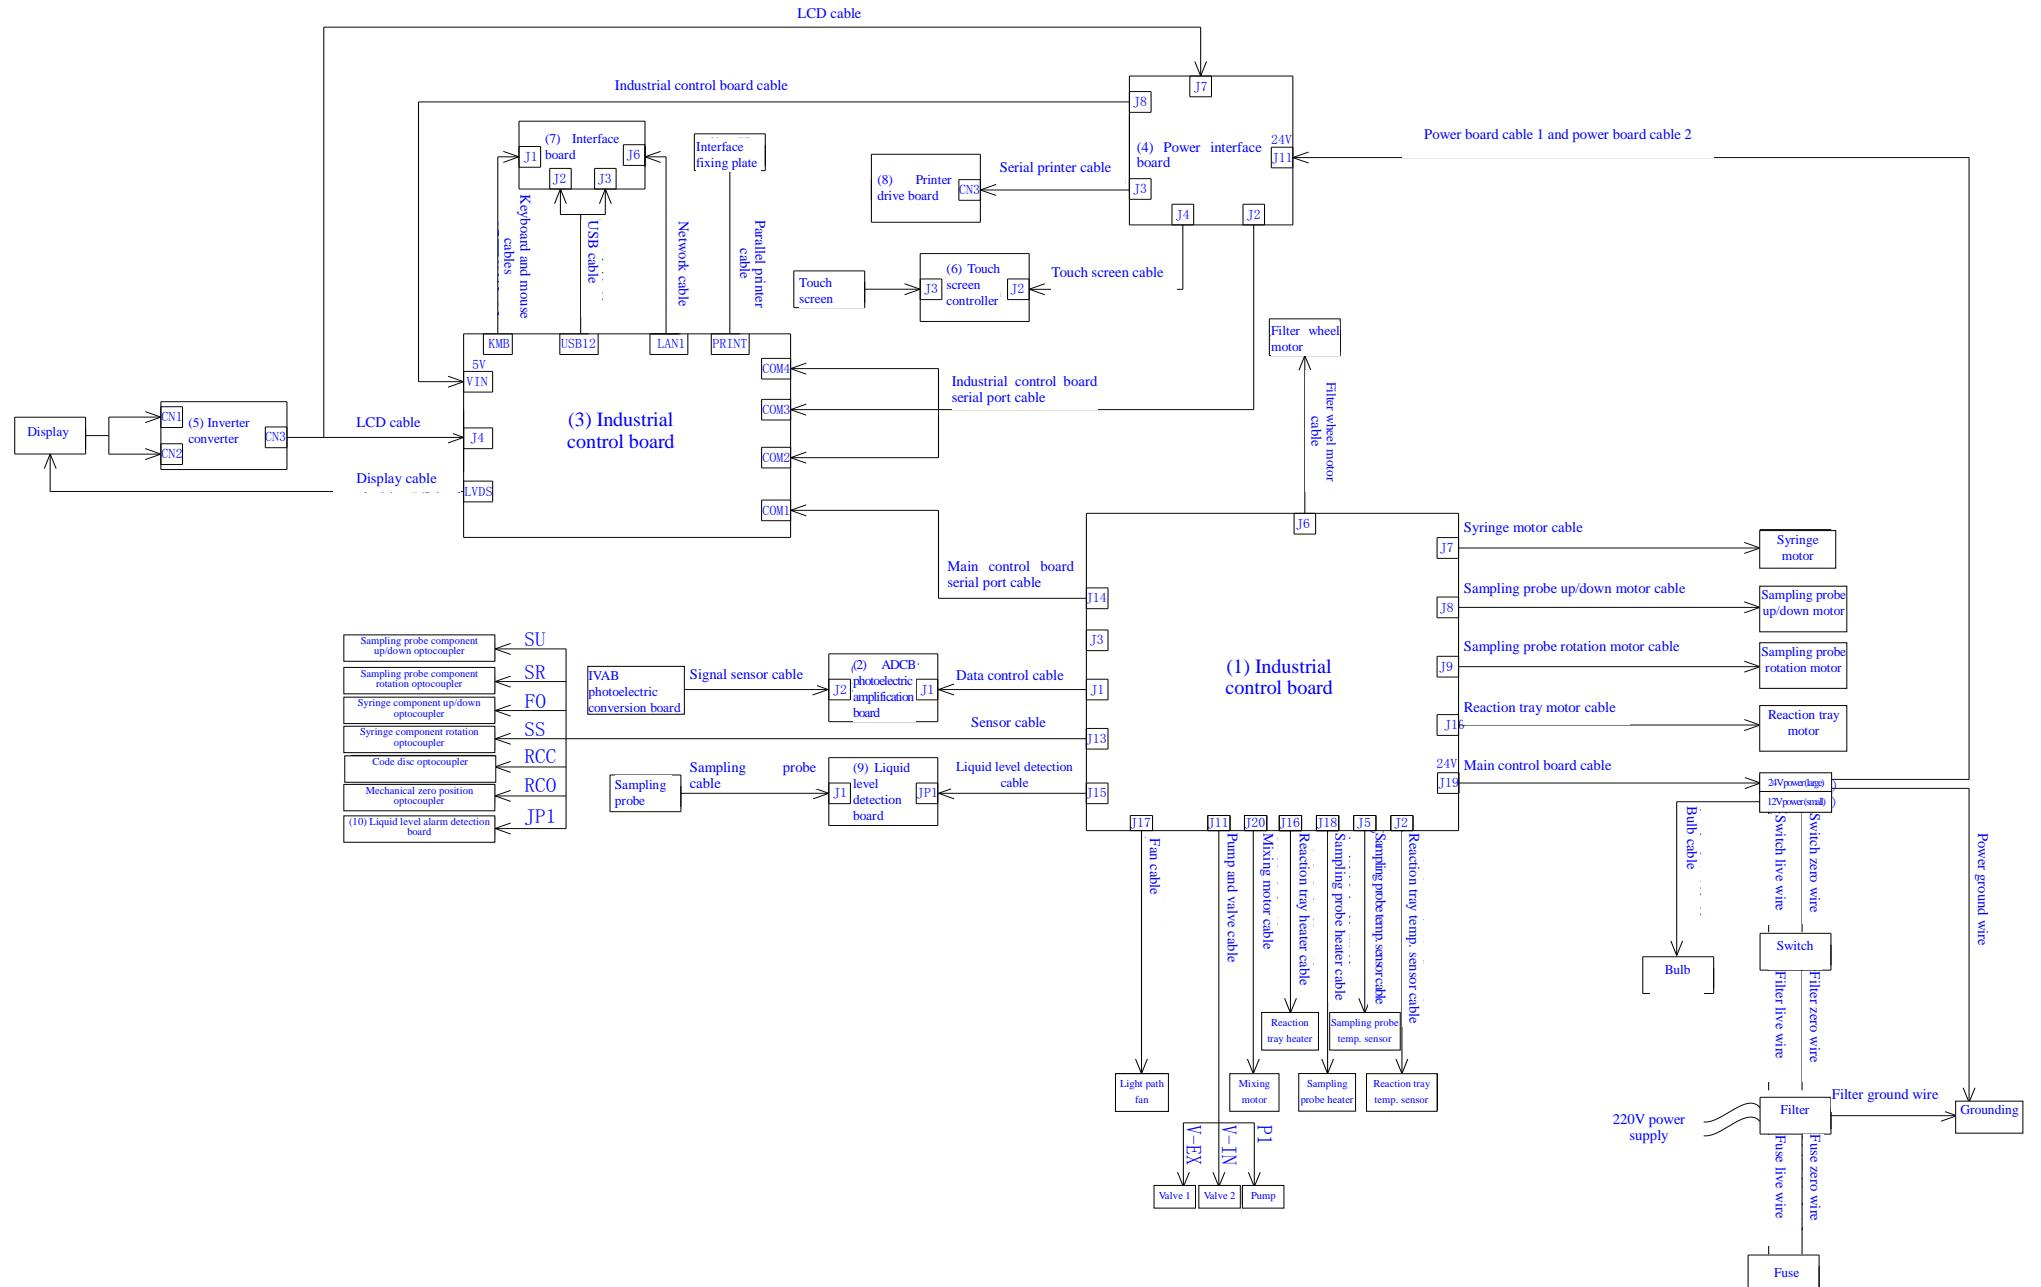

Figure 7-17 Wiring Harness Connection Replacement Photo
- Replace the wiring harness as required according to Figure 7-17 Wiring Harness Connection Replacement Photo;